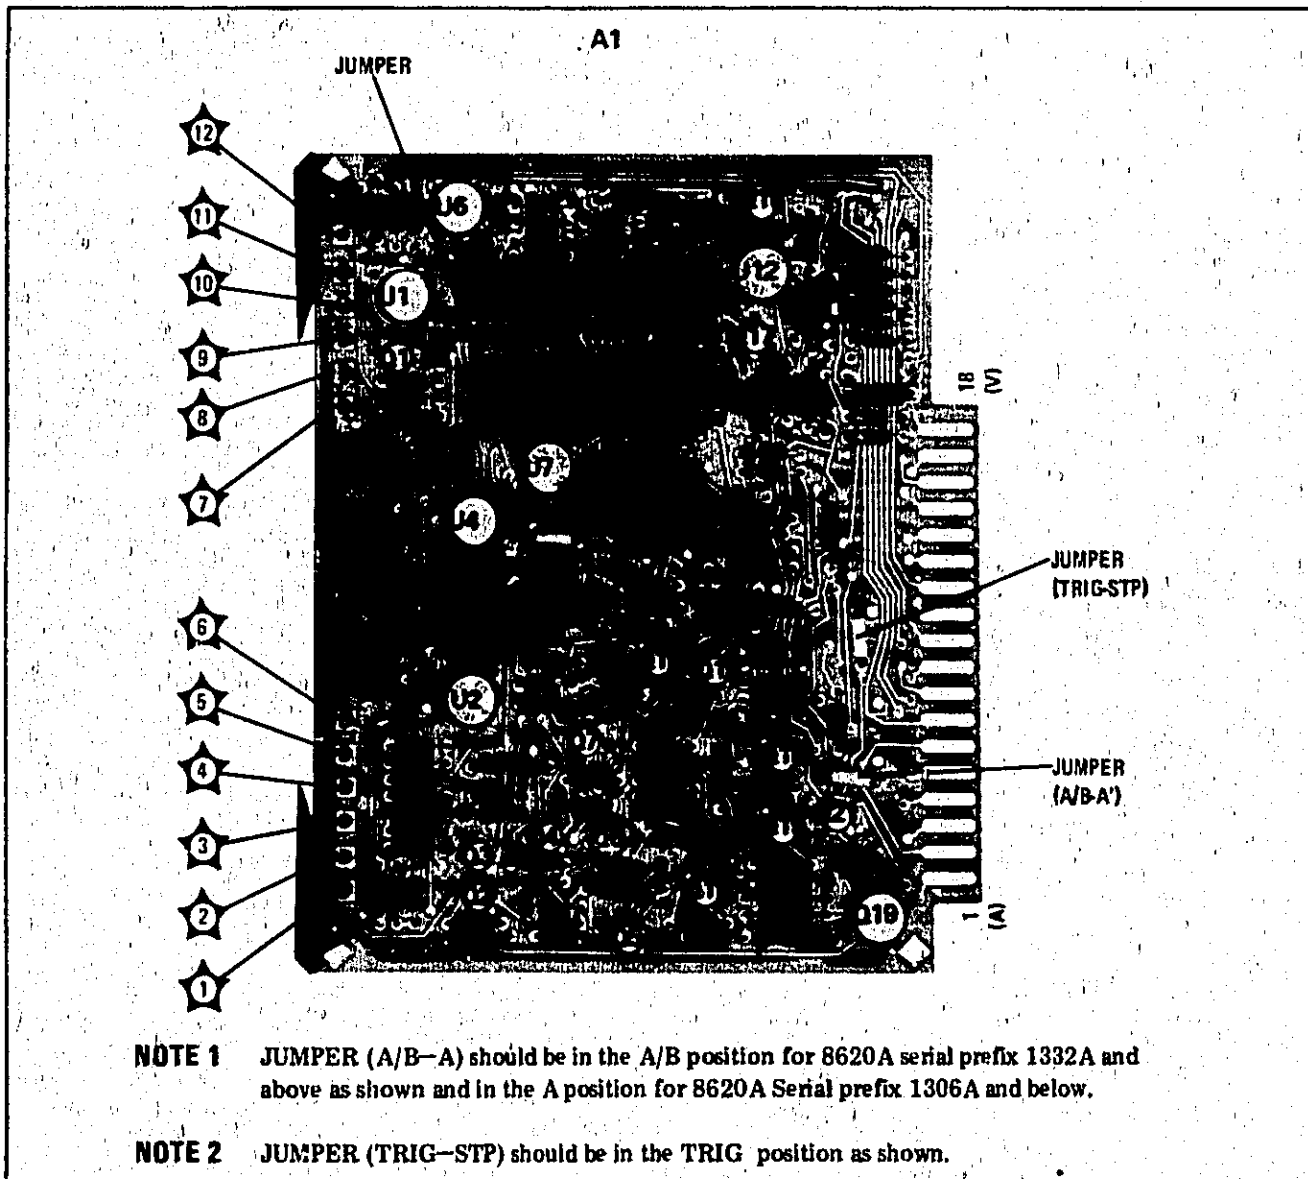

Figure 4. A1 Sweep Generator Assembly, Jumper Position
4. Before installing the A1 Sweep Board from the Modification Kit, insure that the jumper wires are in the correct position for the particular mainframe being modified. See Figure 4 (Figure 4; A1 Board photo showing jumper placement).